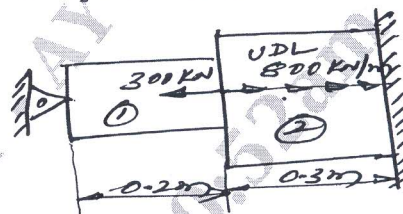

Fig.Q3(b)
- b. Find the nodal displacement stress and reaction for the bar subjected to load as shown in Fig.Q3(b). Take $E_1 = 70$ GPa and $E_2 = 200$ GPa. (10 Marks)